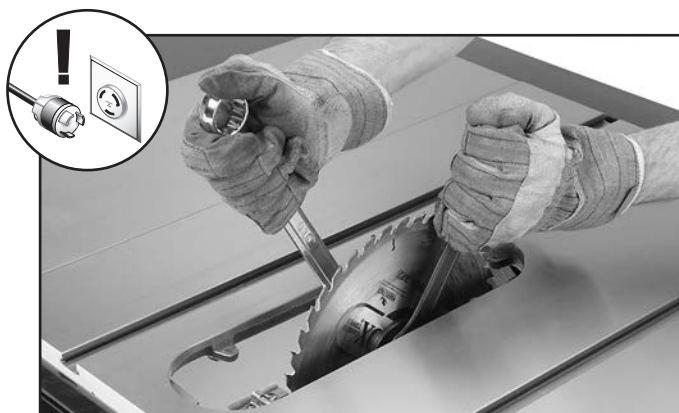

Figure 16. Example of securing blade.
14. Put on heavy leather gloves and use included arbor wrenches to tighten arbor nut (turn clockwise to tighten), as shown in **Figure 16**, then lower blade fully.